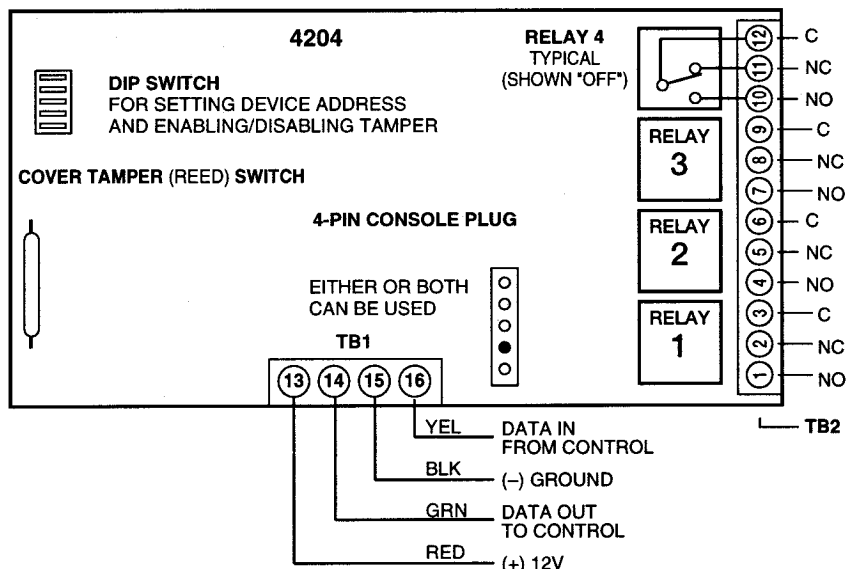

Figure 10. 4204 Connections to Control
3. **Connect the desired field wiring** to the unit's relay contact terminals. See Figures 10 and 11.